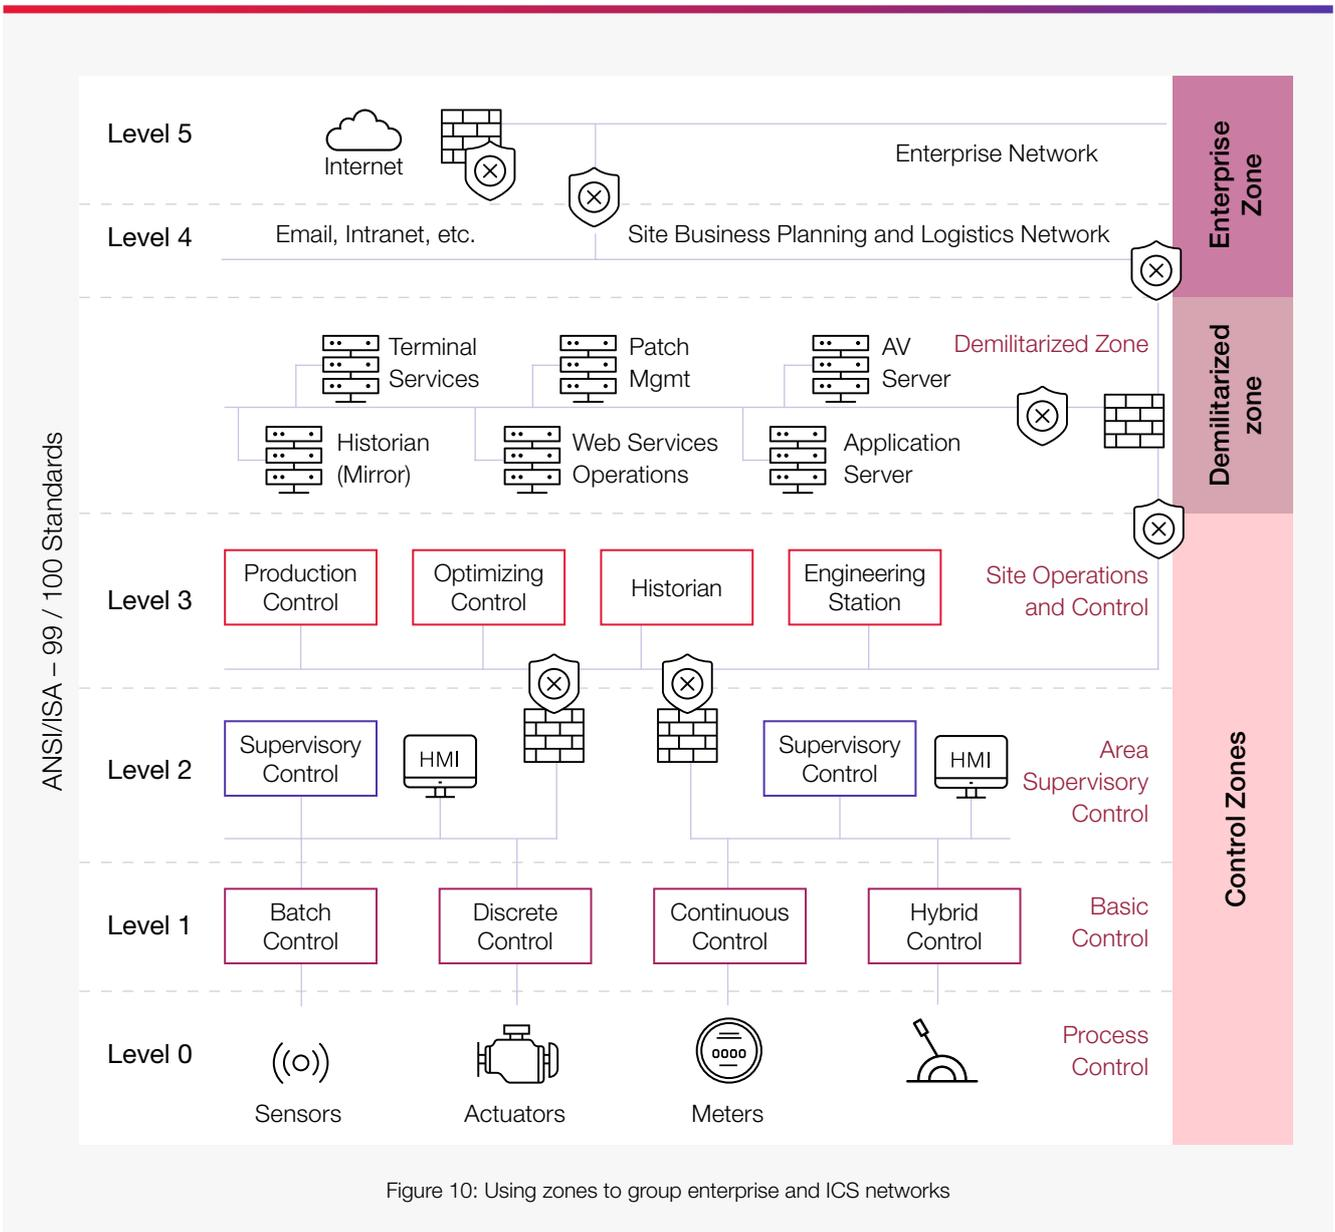

Figure 10: Using zones to group enterprise and ICS networks
**Segmentation and hardening:** To guarantee security, manufacturers need to ensure there is sufficient segmentation and segregation between assets and non-authorized users as per industry standards/Purdue model (Figure 10). It is important to group assets that have a common set of security requirements, both physically and logically. It is equally important to control communication and interconnections between these zones, using conduits that determine the information flow allowed between the zones.